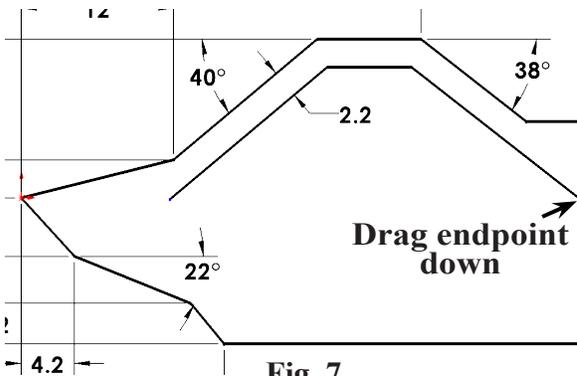

Fig. 7
Step 10. **Drag down bottom endpoint of rear wind offset line to align with first dragged endpoint**, Fig. 7.